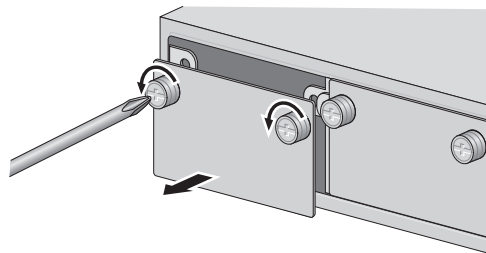

Figure 14. Removing the Expansion Slot Faceplate
3. Using a Phillips screwdriver, loosen the captive screws on the faceplate and remove it, as shown in Figure 14.